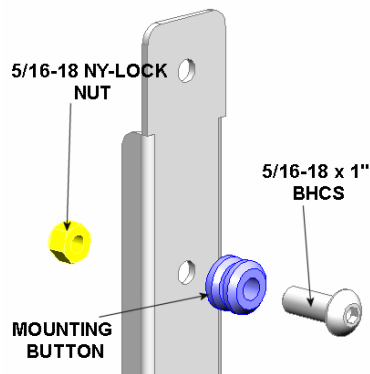

Figure 2
1. Using a 5/16-18 x 1" button head cap screw inserted from the front of the mounting button, secure mounting button, with chamfered hole of mounting button (larger surface) facing bracket, to upright brackets (four places) (see Figure 2). Make sure the bends on interface bracket face away from the buttons.